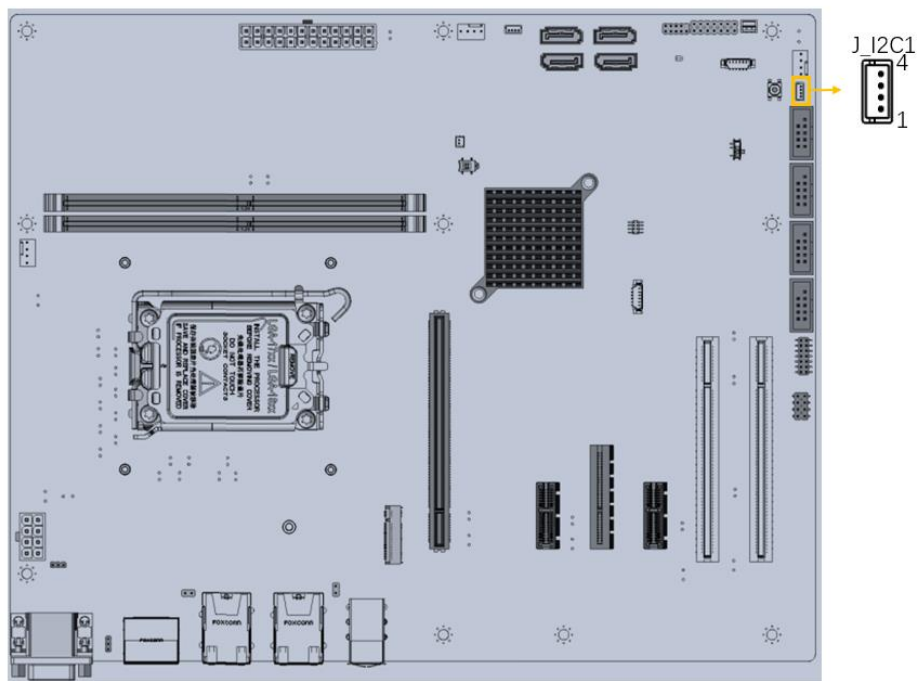

Figure 3-17: I²C Connector Location
- CN Location:** See **Figure 3-17**